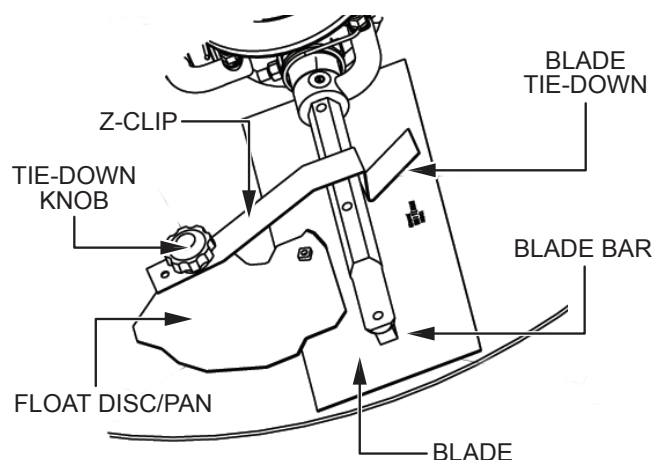

Figure 17. Float Pan Installation (Z-Clips)
1. Lift the trowel just enough to slide the float pan under the blades. Lower the trowel onto the pan with the blades adjacent to the Z-clips (Figure 17).
2. Rotate the blades into position beneath the Z-clips (Figure 17). Be sure to rotate the blades in the same direction as during operation, or use the engine to rotate the blades into position.
3. Secure the blade tie-downs to the far side of the Z-clip brackets with the tie-down knobs (Figure 17).
4. Make sure the blade edges are secured under the Z-clips, and the tie-downs are secured completely over the edges of the blade bar (Figure 17).